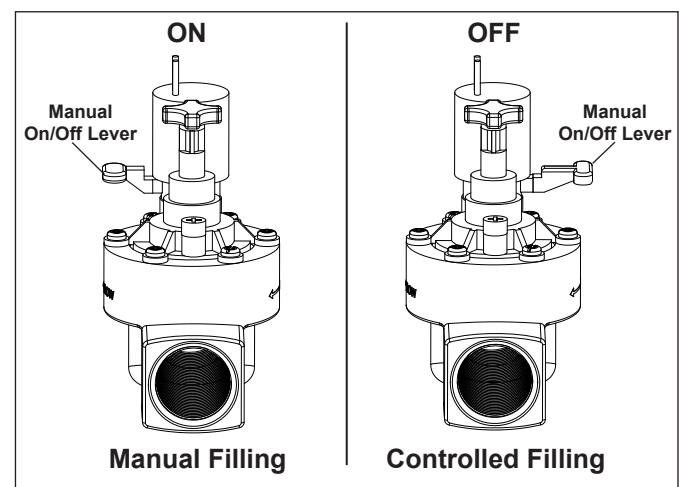

Figure 6. Manual Valve Lever
5. Put the manual ON/OFF lever, located just below the solenoid, in the OFF position, so it can only be opened by the electronic water Levolor. See Figure 6.